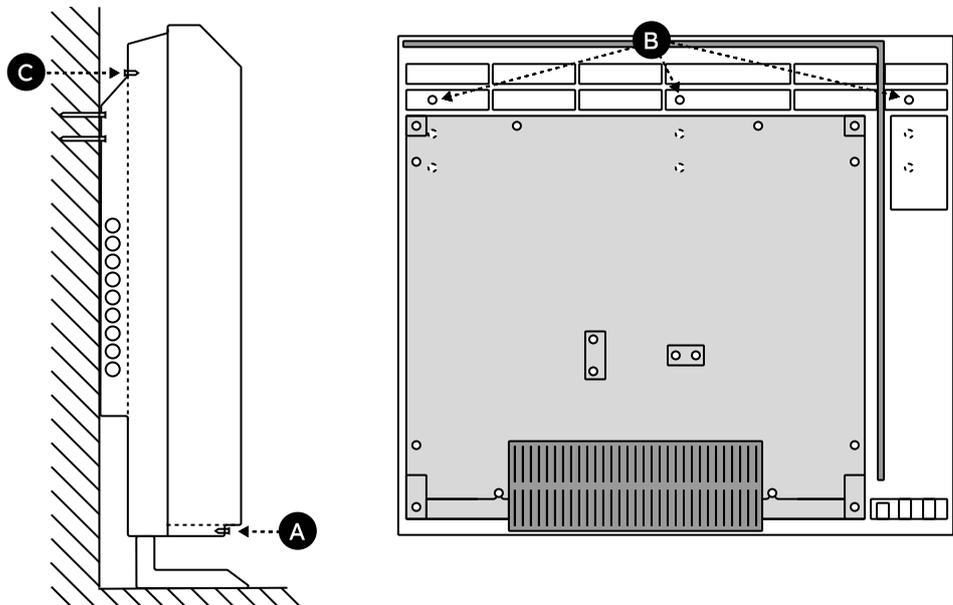

Figure 2 | Installing the anchoring screws
3. Remove the 2 screws near the base (A). Remove the front panel by sliding the panel up and off the slotted screws at the top of the radiator. (Figure 2)
4. Position the storage heater against the wall in the desired installation location. Use a pencil to mark the anchoring screw positions on the wall (B).
- At least 2 anchoring screws must be installed. To access the optional lower anchoring points, the rear panel may be removed and installed separately by removing 2 screws at the top (C).